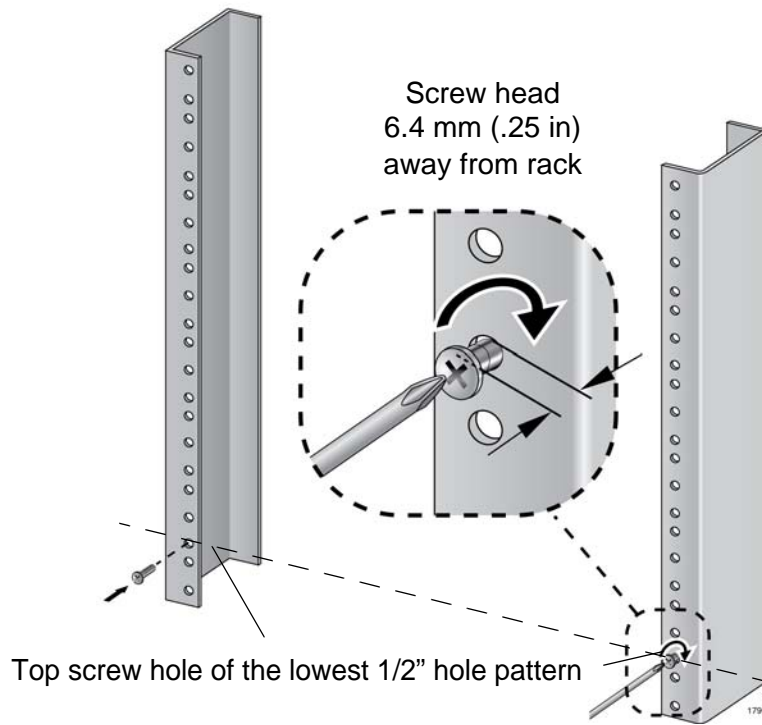

Figure 39. Rack Mounting Hole Locations
4. Install one rack mount screw in each vertical rail, at the same height in the top screw hole of the lowest 1/2" hole pattern, as shown in Figure 39 on page 103. The screws are used to support the chassis while you secure it to the rack. Do not fully tighten these two screws at this time. The screw heads should protrude from the rack approximately 6.4 mm (.25 in).